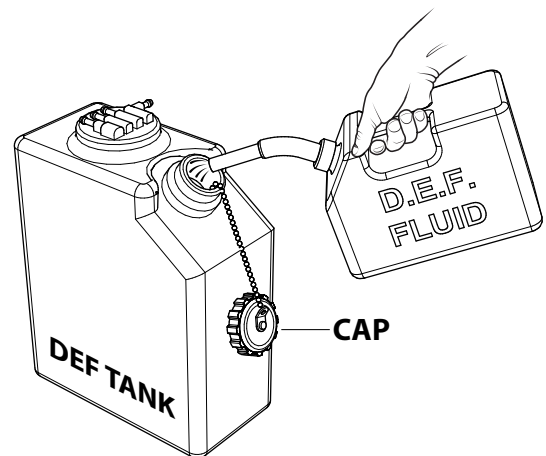

**Figure 31. Fuel Expansion**
**DO NOT OVERFILL** fuel system. Leave room for fuel expansion. Fuel expands when heated (Figure 31).